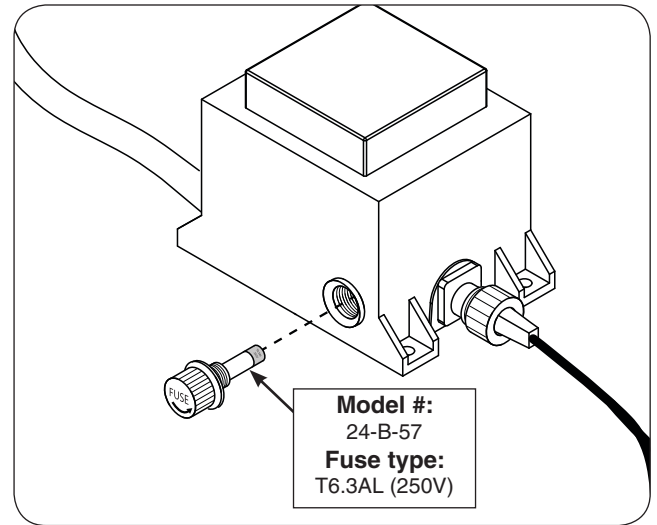

Fig. 35-1 Replace fuse
3. Locate the fuse holder on the power supply box (see Fig. 35-1).